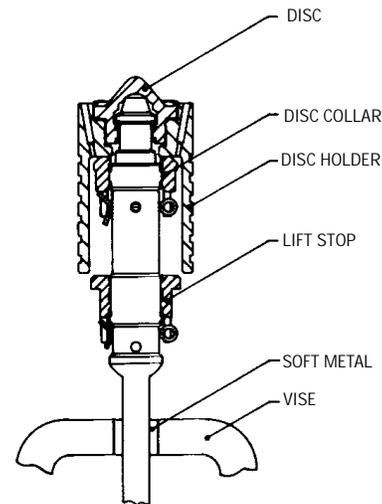
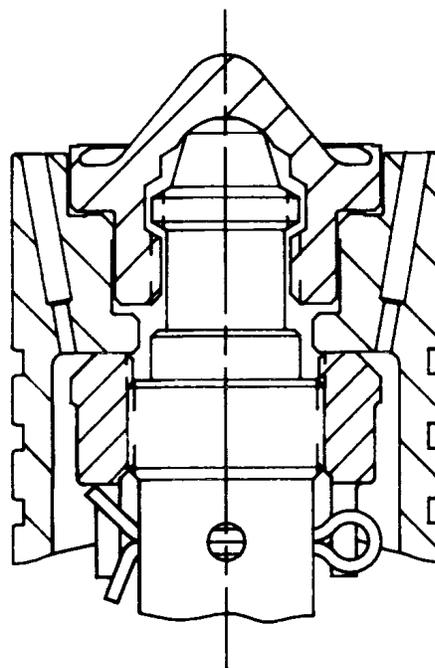

FIGURE 9
FIGURE 15
10. To remove the disc and disc holder from the spindle, first insert the spindle into a vise (see Figure 9, right) being careful not to damage the threaded end of the spindle. Then, lift up on the disc holder and turn the disc/disc holder counterclockwise to engage the "drop-thru" threads. Once the threads are engaged, release the disc holder and continue to unthread and remove the disc. After the disc is removed, lift disc holder from the spindle.
- f. Place the disc holder on the spindle, allowing it to rest on the face of the disc collar as previously shown in Figure 9 on page 23. Then assemble the disc holder and new disc. The disc should be free enough to rock on the spindle tip. If there is no freedom, lower the disc collar until the disc is free to rock slightly initially, approximately .001 to .002 inches (0.25 to .05 mm) rock. The disc collar must then be lowered two additional notches from this initial position and secured with a stainless steel cotter pin. (See Figure 15, below).